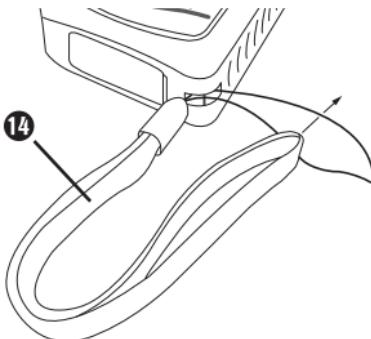

Fig. 1
- ◆ Attach the wrist strap ⑯ to the hole provided as shown in Figure 1.